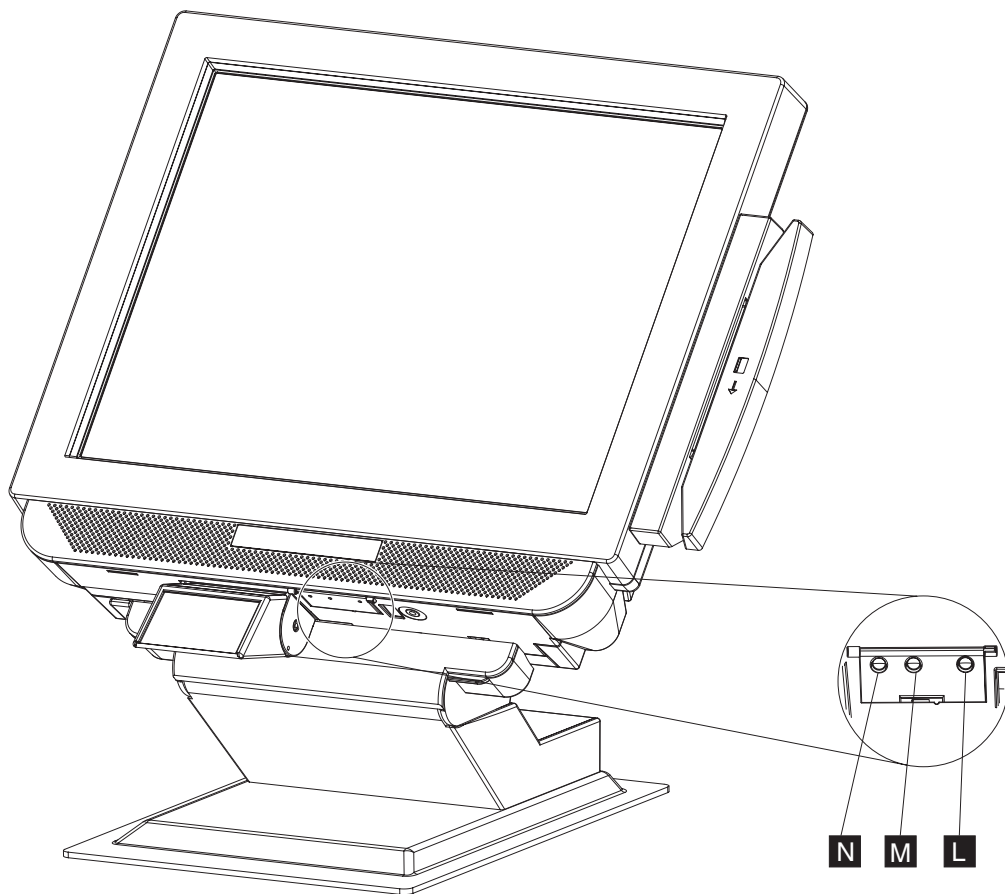

Figure 15. IBM 4838 controls
2. Three small holes (see **L**, **M**, and **N** in Figure 15 on page 24 for the approximate location) in the control button cover allow you to actuate the control buttons. Use a paper clip or other small tool to actuate the button.
3. Power on the IBM 4838 using the power button (**L** in Figure 15). The 4838 power indicator light will initially appear green.
4. To adjust the LCD brightness, select the plus + or minus - keys (see **M** and **N** in Figure 15).